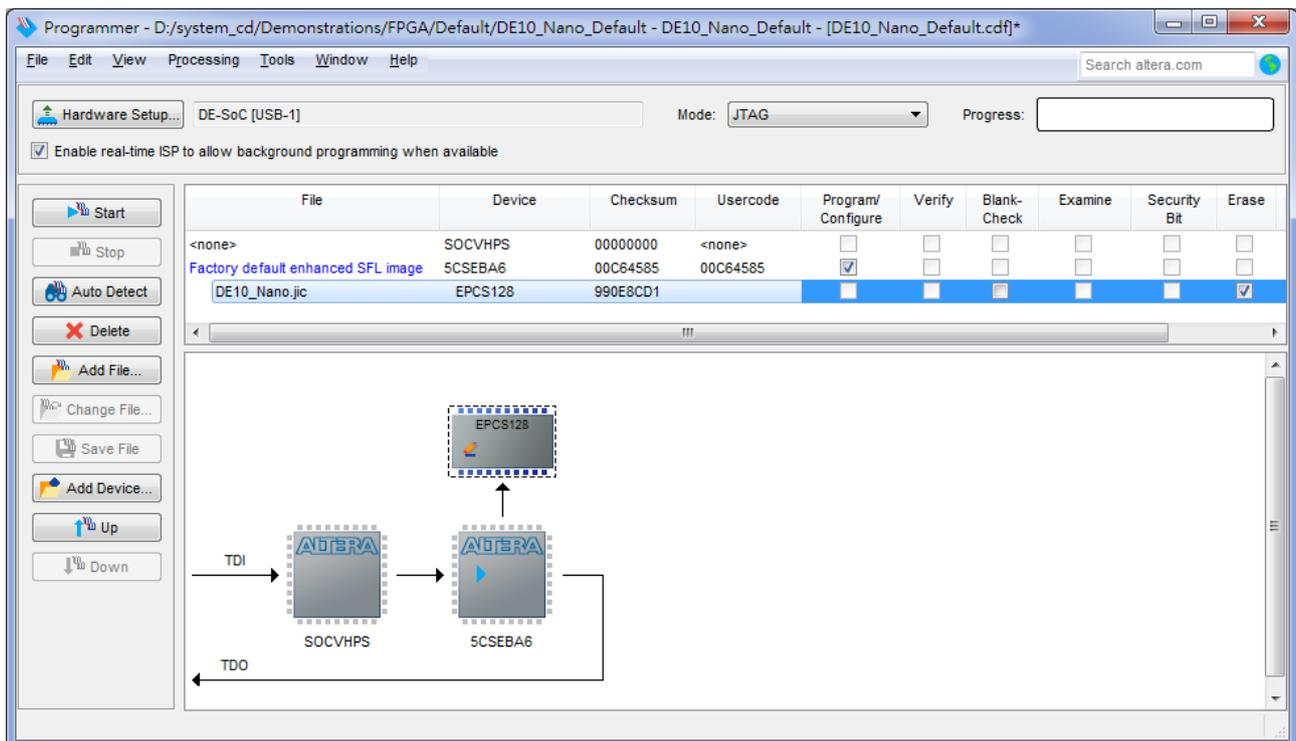

Figure 8-9 Erase the EPCS device in Quartus II Programmer
5. Erase the EPCS device by clicking the corresponding **Erase** box. A factory default SFL image will be loaded, as shown in **Figure 8-9**.